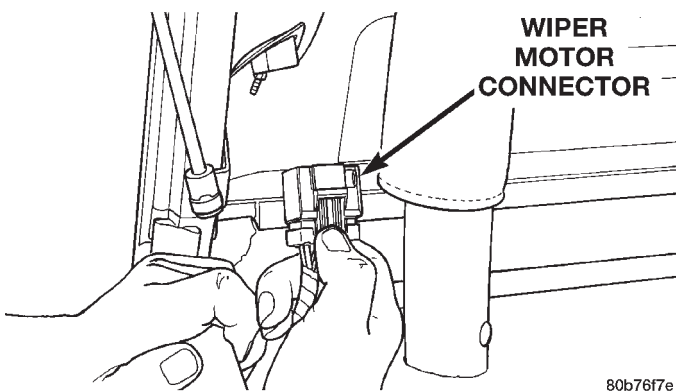

Fig. 44 Rear Wiper Wire Harness Connector
- (3) Depress tab on wiper motor connector and pull downward to disengage (Fig. 44).